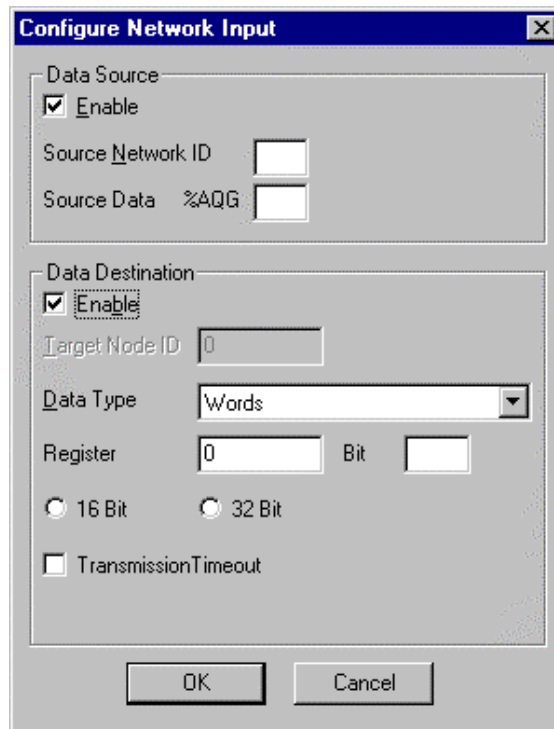

Figure 14.2 - Configure Network Input
- From this screen the network inputs and outputs are also defined. To configure a unit to read a single bit register from the network, select a specific %IG register from the list, by double clicking on the name of the register. As per Figure 14.2 enter the network ID of the data source and the specific register (%QG) from that network ID.
- The data read from the %QG register can be directly sent to a specific register automation equipment. From figure 14.2 enable the **Data Destination** box and define the automation equipment register that %QG1 is to be sent to.